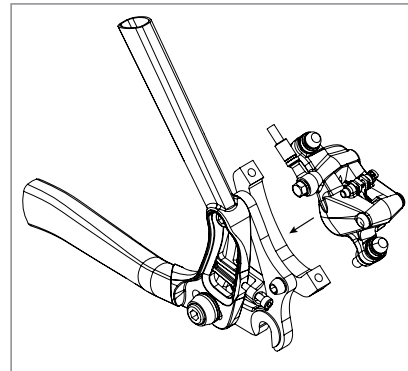

Figure 4
3. Install the rear brake caliper, rear wheel, and then align and secure the brake caliper to the rotor per the brake manufacturer's instructions (Fig 4).